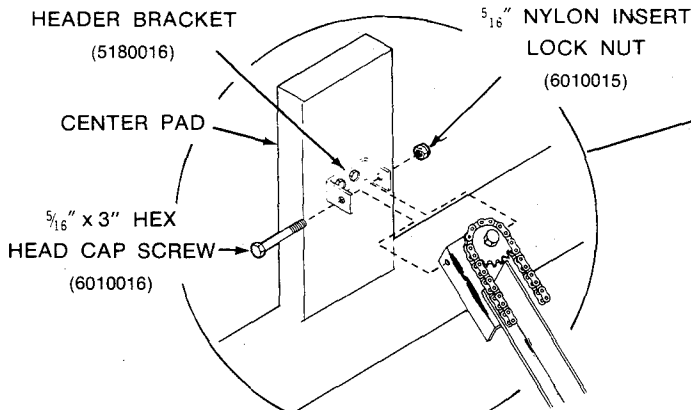
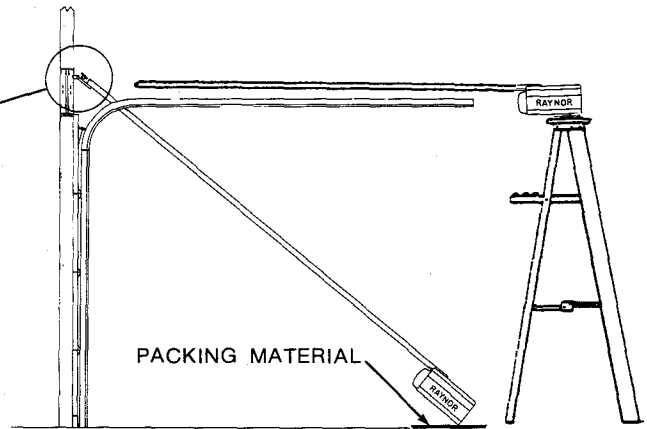
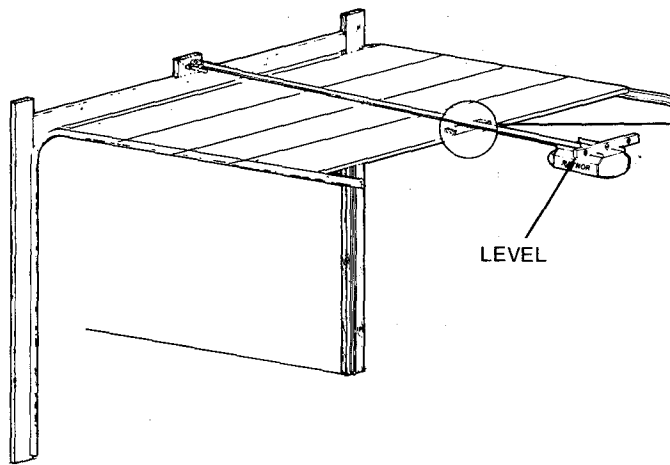

FIGURE 5.
FIGURE 4.
FIGURE 6.
- 4.) Place operator powerhead on packing material. (See Figure 4.) With door closed, raise front of operator and attach to header bracket using one (1)  $\frac{5}{16}$ "  $\times$  3" hex head cap screw and one (1)  $\frac{5}{16}$ " nylon insert lock nut. (See Figure 5.) Do not tighten nut completely at this time.
- 5.) Swing powerhead of operator up onto stepladder. (see Figure 4.) Open door and place a 2 $\times$ 4 flat along top section of door. Place T-rail on 2 $\times$ 4. (See Figure 6. and 7.)
- 8.) Make sure powerhead is level. (See Figure 6.) Tighten all nuts on hangs and check to make sure operator is mounted solid.
- 9.) Close door, tighten nut and bolt on header bracket. Do not overtighten. (Refer to Figure 5.)